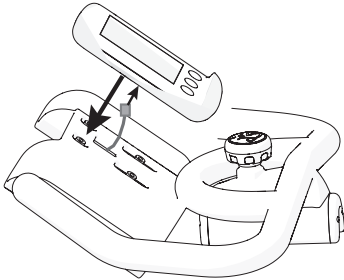

Figure 1
- 2. Place the console on top of the handlebars (Figure 1).